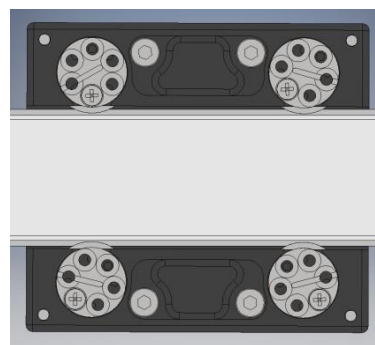

Figure 5: Bottom tightened 30 & 15
- 6) Tighten the two Bearing Cams opposite from the ones loosened in steps 4-5 (Figure 5, lower Bearing Cams). Go until resistance is felt and then continue tightening until the next hole is aligned.